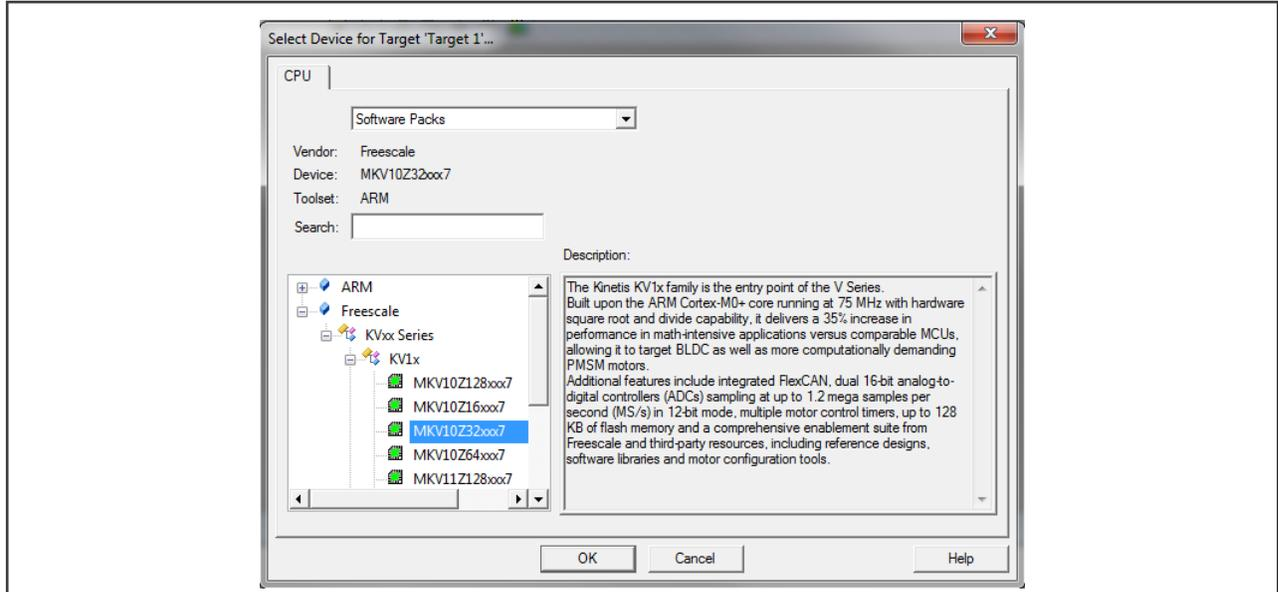

Figure 7. Select Device dialog
7. Click the MKV10Z32xxx7 node, and then click OK. See Figure 7.